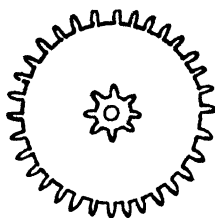

Fig. 25
Figs. 25 and 26.—
**Wheels, etc.**—The hour wheel (Figs. 23 and 24) is lifted off, and then the minute wheel (Figs. 25 and 26). The cannon pinion (Fig. 27) is the pinion or small wheel that carries the minute hand on its square, and must be tight on the centre arbor on which it fits, turning stiffly. To remove it, grasp its square by cutting nippers and pull it off with a twisting motion.